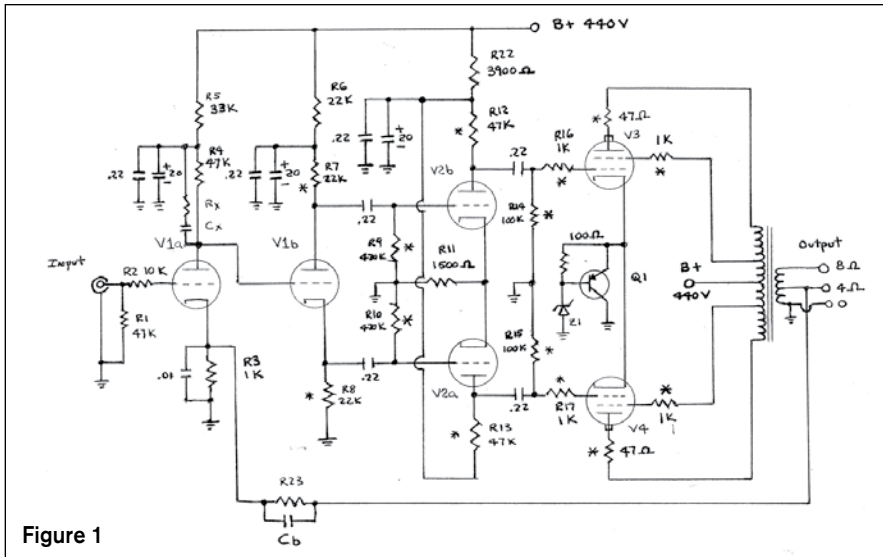

Figure 1
a pack of resistors of a given value, and find two that most closely match by using an ohmmeter. I denote these matched pairs with an asterisk (*), as in **Fig. 1**.
2. For cathode bias of V3 and V4, I recommend removing R18 and R19, C9 and C10 and replacing with the simple circuit shown in **Figs. 1** and **4**. See that Q1 is a TIP107 Darlington transistor, which comes in a TO-220 package that you can bolt directly to the chassis which is used as a heatsink. Diode Z1 is a 1W (or higher) zener diode selected for proper bias voltage for the 807s. A usual value is 30V, but that can vary depending upon the final operating point of the output tubes.